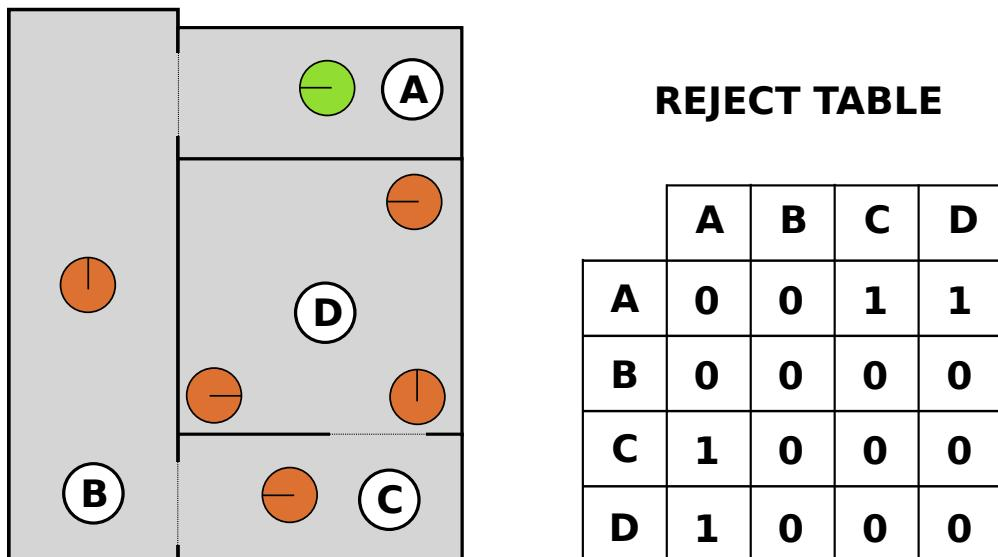

Figure 5.54
Figure 5.54 features four sectors with five monsters and one player in sector (A). The engine needs only to run expensive line of sight calculations for the monster in sector (B). All four others monsters are "rejected" via a cheap lookup. The table is only used for sight. Monsters will still hear the player since sound is cheaper to propagate.